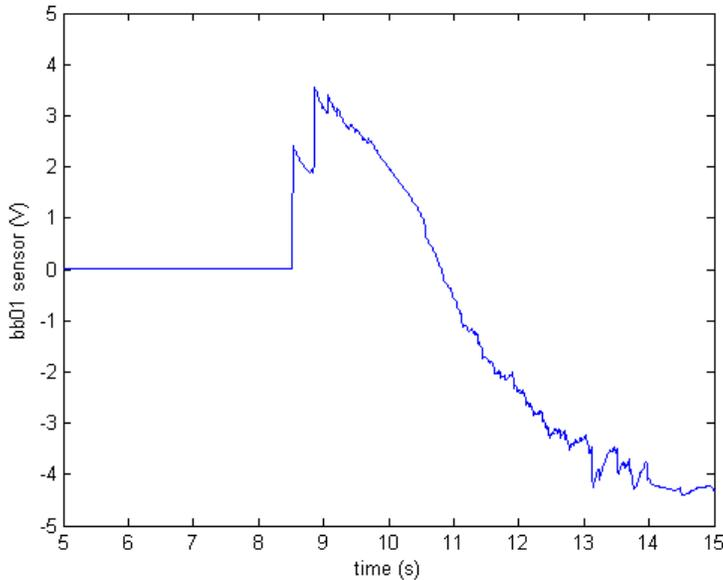

Figure 21: Typical voltage signal from BB01 ball position sensor.
2. A typical signal response of the ball position sensor is illustrated in Figure 21. For the BB01, the ball position sensor should output a voltage of about 4.5 V when it is closest to the SRV02. As the ball is rolled away from the SRV02 the measured voltage signal should be decreasing down